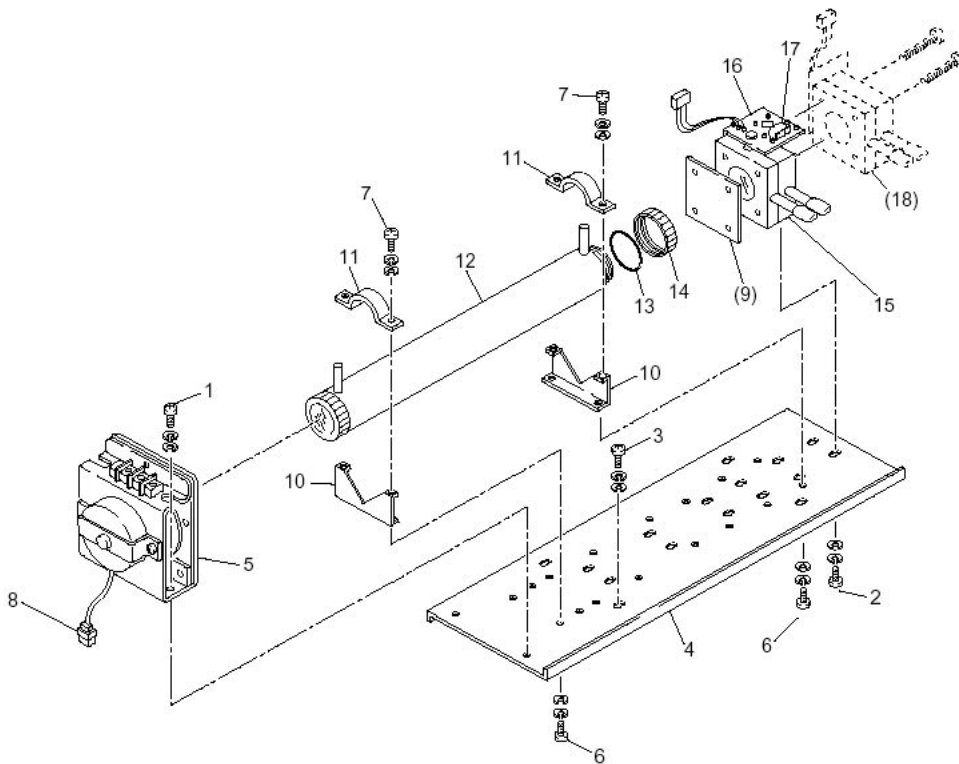

Fig. 7-1 Configuration of measuring unit (pipe cell)
There are two kinds of measuring cells, on block cells (cell length: 4 mm, 8 mm, 16 mm, 32 mm) and pipe cells (Cell length: 6.4 mm, 125 mm and 250 mm). 2-component analyzer may incorporate both measuring cells in optical unit. In such a case, detach the pipe cell and then block cell (See Fig. 7-1).
(1) How to remove pipe cell (See Fig. 7-1)